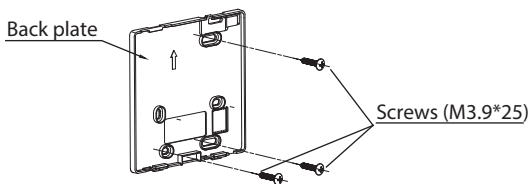

Fig 3-3
- For exposed mounting, fasten the back plate on the wall with the 3 screws (M3.9*25) and plugs. (Fig.3-3)